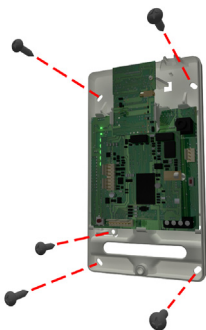

Figure 6: Mounting the Module
- 3) Align the PCS250G and secure into place using the appropriate hardware, as shown in Figure 6.